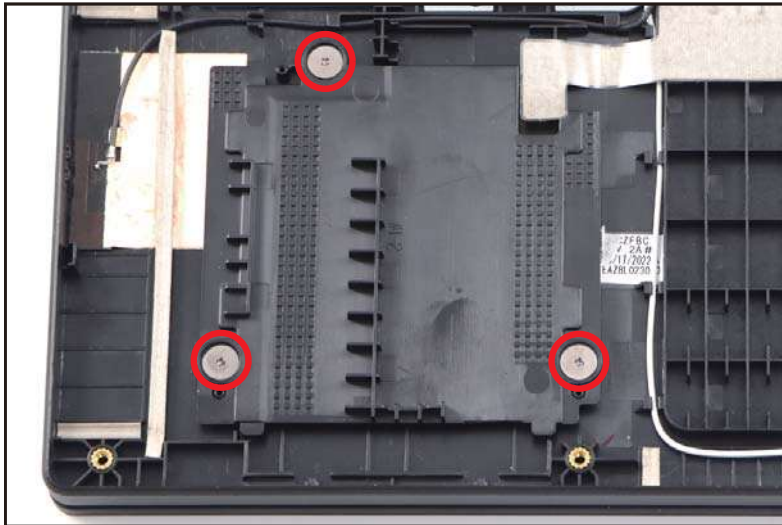

Figure 3-15. Smart Card Reader Holder Removal
1. Remove three (3) screws securing the smart card reader holder (Figure 3-15).